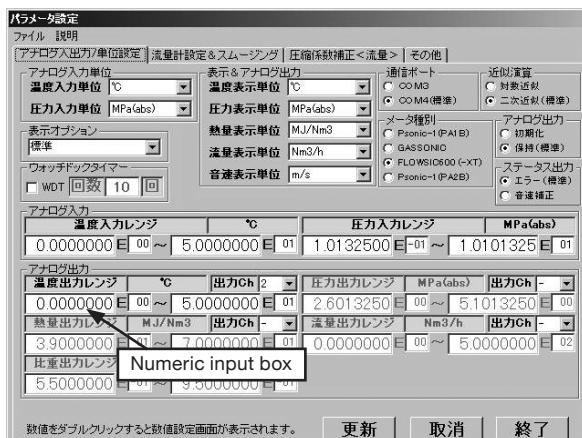

Fig. 8.10.1
- On the Analog Input/Output Settings screen, double-click in the numeric input box shown in Fig. 8.10.1.